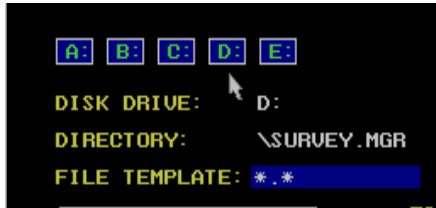

Figure 2.14: Available Disk Drives
3. Specify the drive and directory where the imported files reside. Select the drive (Figure 2.14).